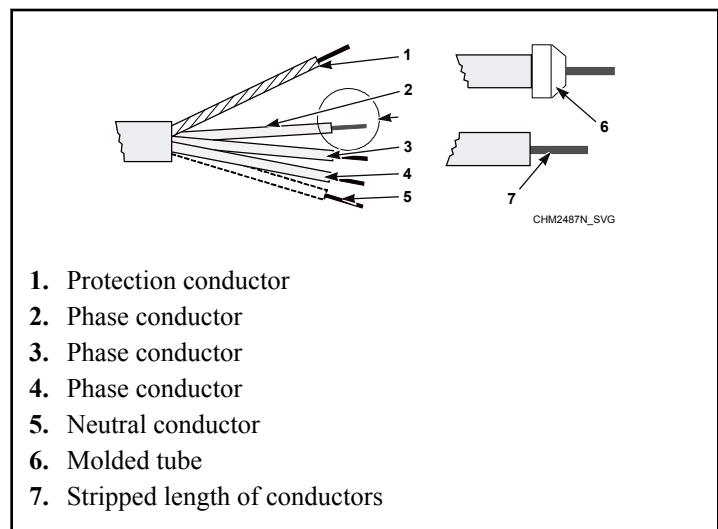

Figure 28
- Strip the conductor ends. Refer to *Figure 28*. The protection conductor must be longer so it can be routed to the machine without tension.